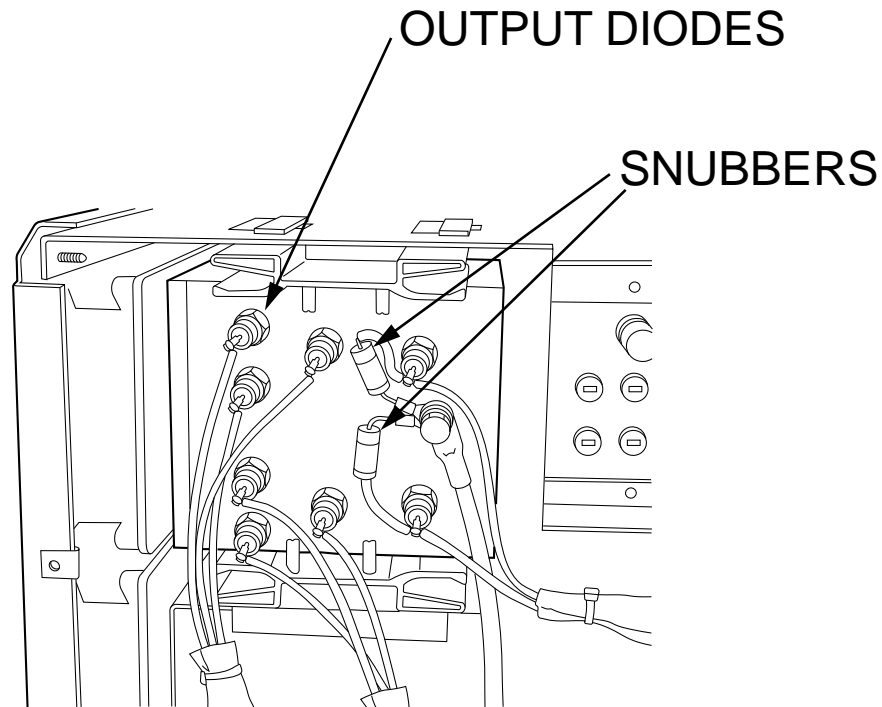
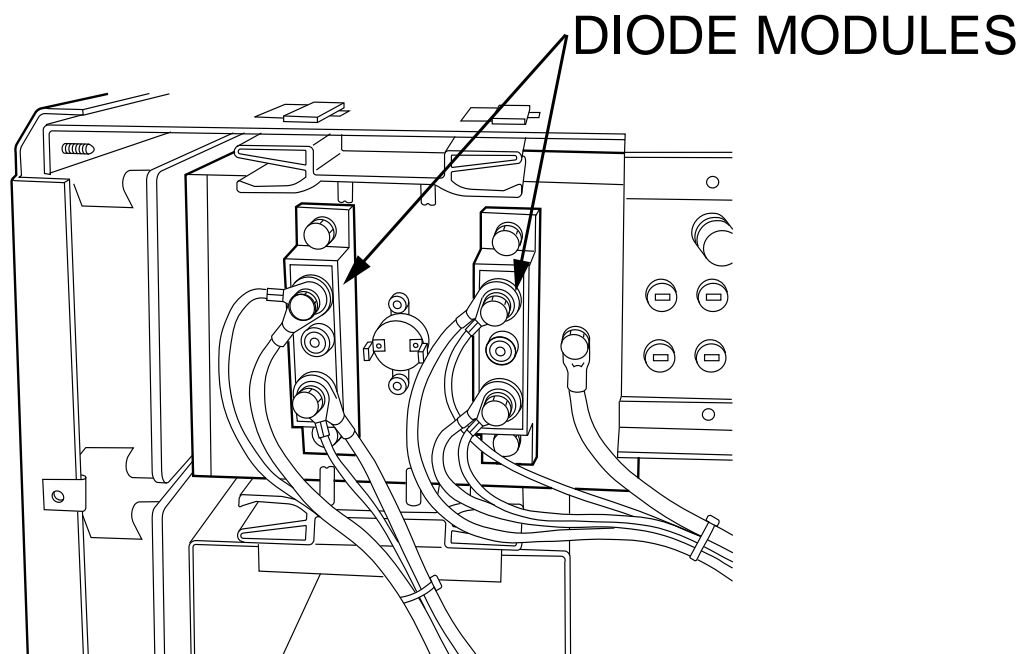

Figure F.6 Output Diodes and Snubber Locations (Codes 10102 and 10103)
Figure F.7 Output Diode Module Locations (Codes 10187 and 10188)
8. Locate output diodes and snubbers. See Figure F.6. for machine codes 10102 and 10103 only. See Figure F.7. for machine codes 10187 and 10188 only.